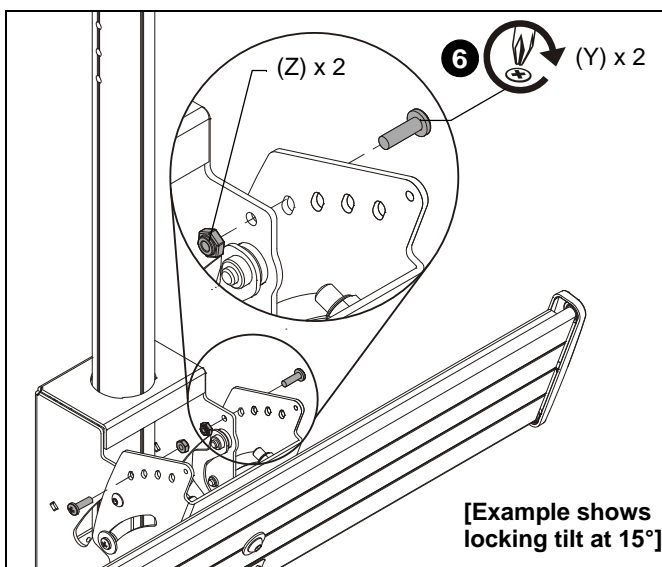

Figure 11
- If using the tilt settings of 0°, 5°, 10° or 15°, insert two 10-24 x 1/2" Phillips head screws (Y) and two 10-24 lock nuts (Z) to lock mount at the specific tilt. (See Figure 11)